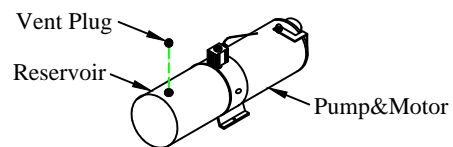

Figure 13: Vent plug.
- (1) Lower mounting kit
7. **Install** the vent plug provided into the pump reservoir (Figure 13).